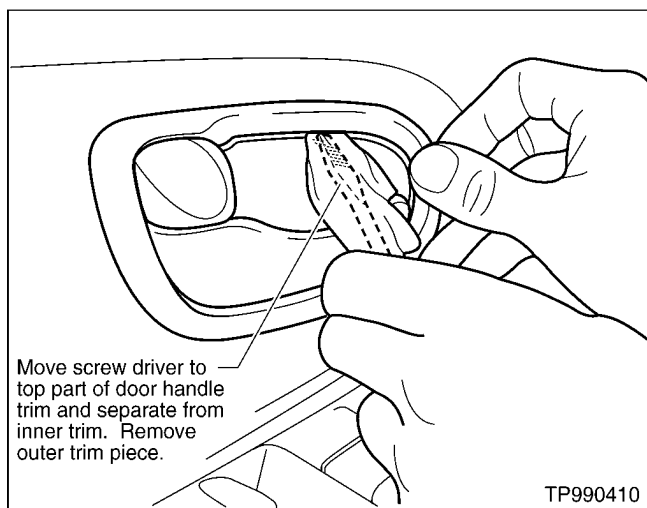

Figure 11
- D. Move the screw driver to the top part of the door handle trim, continuing separation from the inner trim (see Figure 11).